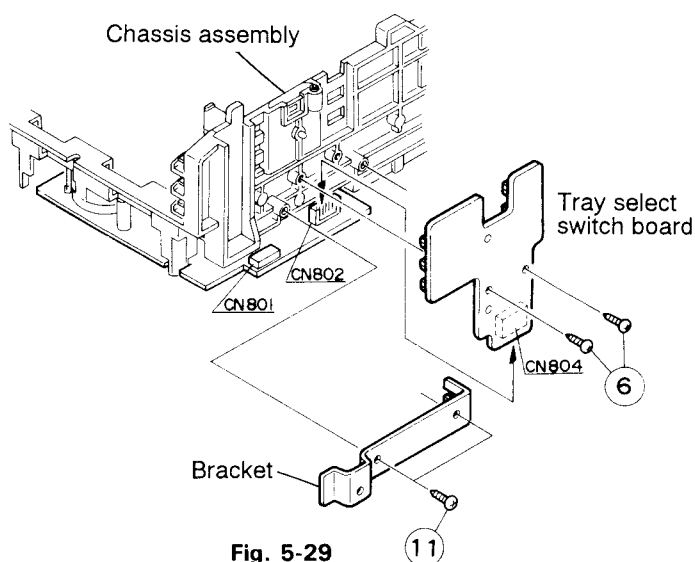

Fig. 5-29
2. Remove the two screws (6) retaining the actuator motor board (See Fig. 5-29).
4. Remove the two screws (7) retaining the tray select switch board (See Fig. 5-29).